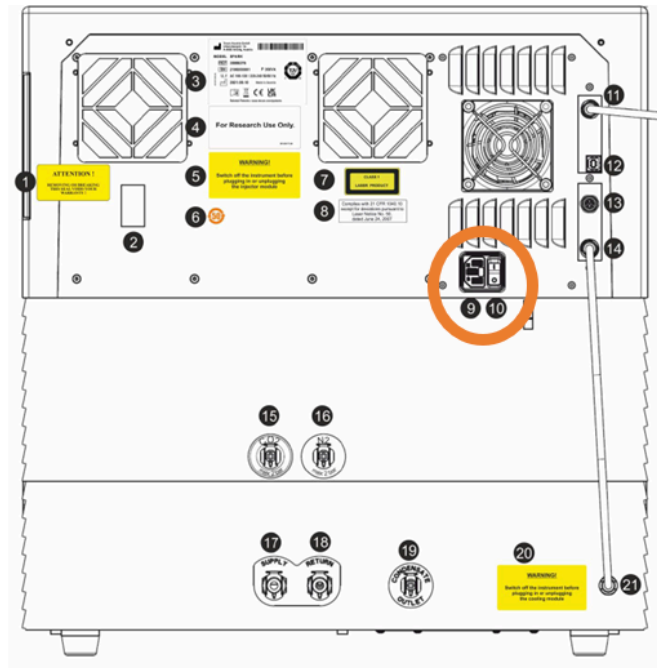

Figure 1. Rear of the instrument. ON/OFF marked by number 10.
- Turn on the instrument (button on the rear, see Figure 1).